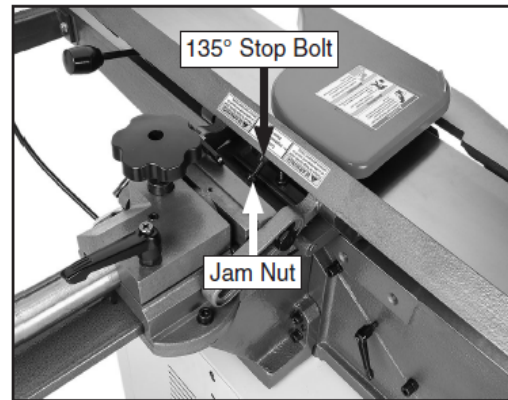

Figure 20
2. Loosen jam nut on 135 degree stop bolt (Figure 20)